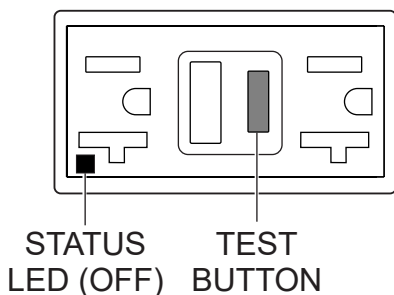

Figure 69. GFCI Receptacle (OFF)
4. Press the **TEST** button (Figure 69) on the GFCI receptacle and verify that the status LED turns **OFF**.